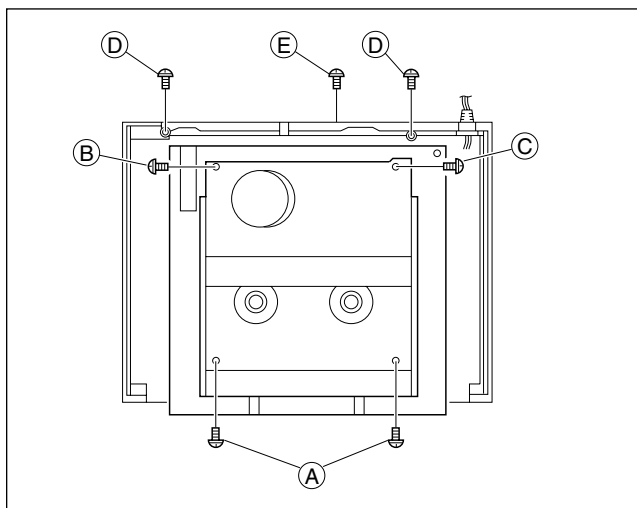

Fig. 1-4-1
- (1) Remove the Top cover, Bracket and Front panel assembly. (Refer to 1.3 DISASSEMBLY/ASSEMBLY METHOD.)
- (2) Lower the cassette holder, and make the preparations required in order to remove the screws from the Mechanism assembly. (Refer to the "Procedures for Lowering the Cassette holder assembly" on pages 1-2 of 1.3 DISASSEMBLY/ASSEMBLY METHOD.)
- (3) Take out 2 screws (A), 1 screw (B) and 1 screw (C) as shown in Fig. 1-4-1.
- (4) Remove the flat wires from CN3011 and CN902 on the Main board assembly.
- (5) Take out 2 screws (D) and 1 screw (E) as shown in Fig. 1-4-1.